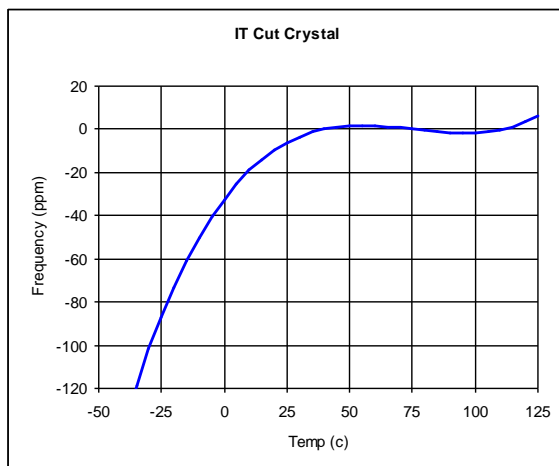

Figure 1
A doubly rotated crystal (IT-Cut), which is stress compensated, is used to obtain good phase noise, better aging rate and lower g-sensitivity. The crystal has a 4-point mounting structure for robustness and low g-sensitivity. Synthetic swept quartz is used for the flight model (FM) to achieve higher radiation tolerance. The Temperature Characteristic (TC) of an IT cut crystal in a 3rd order polynomial function has an inflection temperature at +75°C and an upper turn temperature (UTP) of +95°C. To obtain the advantage of minimal frequency sensitivity, the oven temperature is set at or around the UTP of the crystal. Figure 1 shows typical Temperature Characteristic (TC) of an IT cut Crystal.